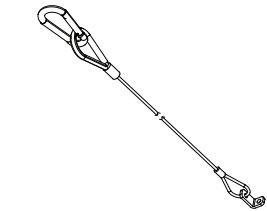

Figure 36
- 1.Wire rope is necessary for the fixture before wiring. (Figure 36)